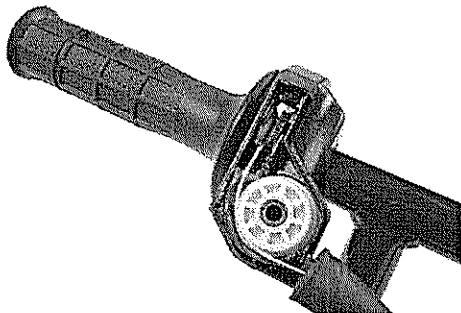

FIGURE 18
1. Remove plastic cover to properly inspect internal components. If damaged or worn, replace. FIGURE 18